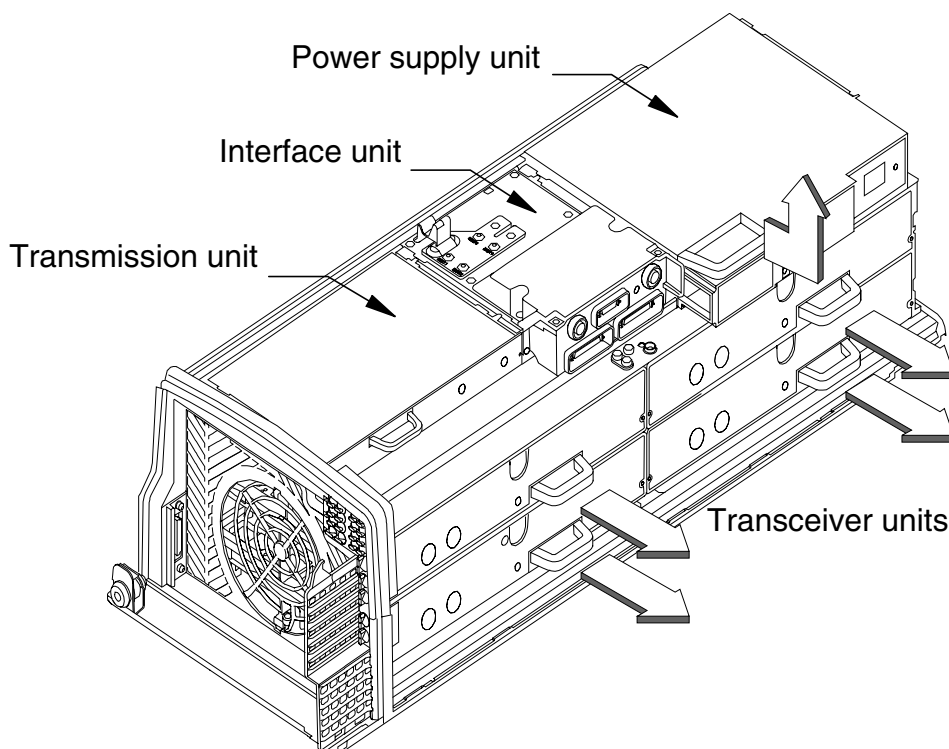

Figure 4. Removing the units
5. Slide the PSU unit out until it comes to a stop, then tilt the unit from the top and remove it (see Figure 4).
1. Slide the PSU into the appropriate slot. See Figure 4.
6. Slide each TRX unit outwards to disengage it from the backplane connector and then pull the unit upwards to remove it (see Figure 4). Use the handle on the front of the TRX for pulling the unit.